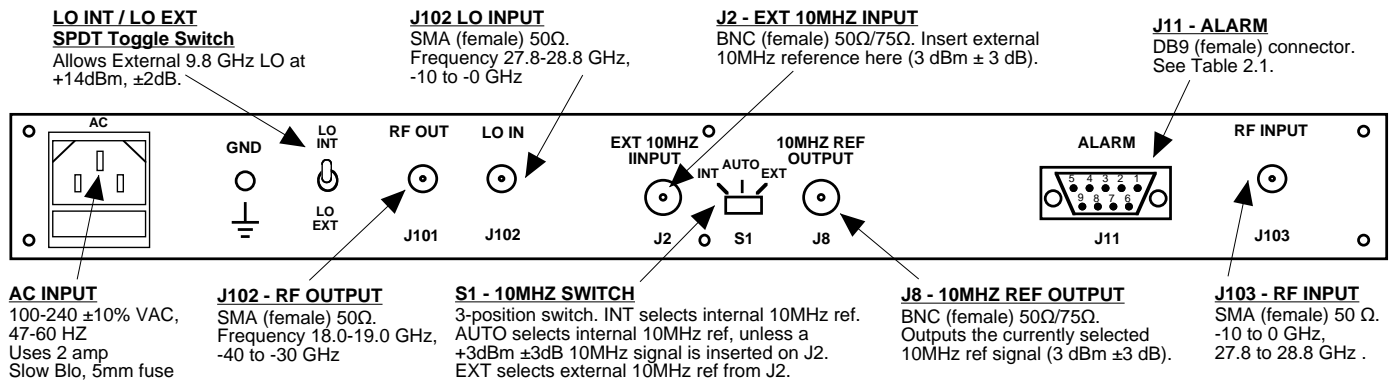
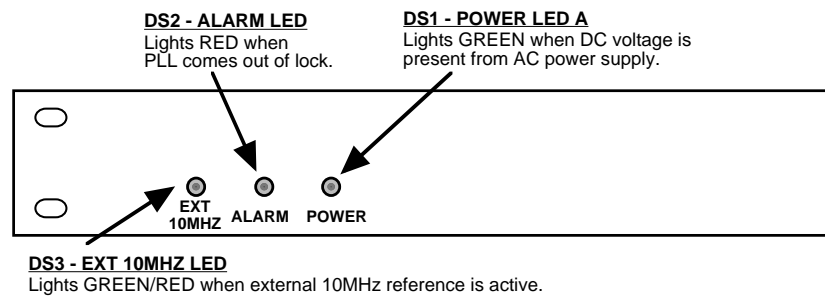

FIGURE 2.1 2116-288T190 Rear Panel I/O's
FIGURE 2.2 2116-288T190 Front Panel Controls and Indicators
Figure 2.1 shows the input and output connectors on the rear panel.
Figure 2.2 shows the front panel indicators.
1. Connect a -10 dBm to 0 dBm signal to RF INPUT (J103) (Figure 2.1).
4. Be sure DS1 (green, DC Power) is on and DS2 (red, Alarm) is off (Figure 2.2).
5. Select either INT, AUTO or EXT Reference using the rear panel 3-way switch, S1 (Figure 2.1). In INT the unit uses the internal 100MHz OCXO reference. In AUTO (unit uses internal 100MHz reference or locked to external 10MHz input with valid 10MHz signal (+/- 1PPM @ +3 dBm on J2). If EXT is selected or AUTO is selected and there is a 10MHz, +3 dBm signal at J2, check that DS3 (green, Ext. 10MHZ) is on (Figure 2.2). IF DS3 is red in External either the External signal input is below the specification or the frequency is not within +/- 1PPM. In AUTO, the unit will turn off the LED if the level drops below specification or if it cannot lock within seven seconds because of frequency error on the input 10MHz signal.
6. If EXT is selected or AUTO is selected and there is a 10MHz, 3 dBm signal at J2, check that DS3 (yellow, Ext. 10MHZ) is on (Figure 2.2).
7. Check that a 10MHz, 3 dBm \pm 3 dB signal is present at the 10MHZ REF OUTPUT (J8) (Figure 2.1).